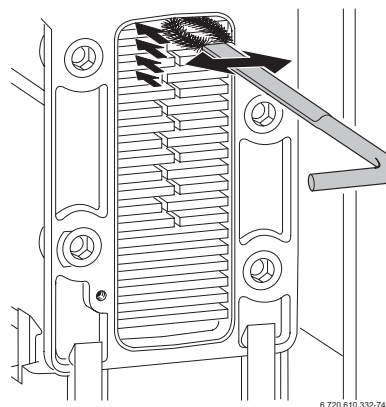

Fig. 49
- ▶ Clean the heat exchanger from top to bottom using the brush. Refer to fig. 49.